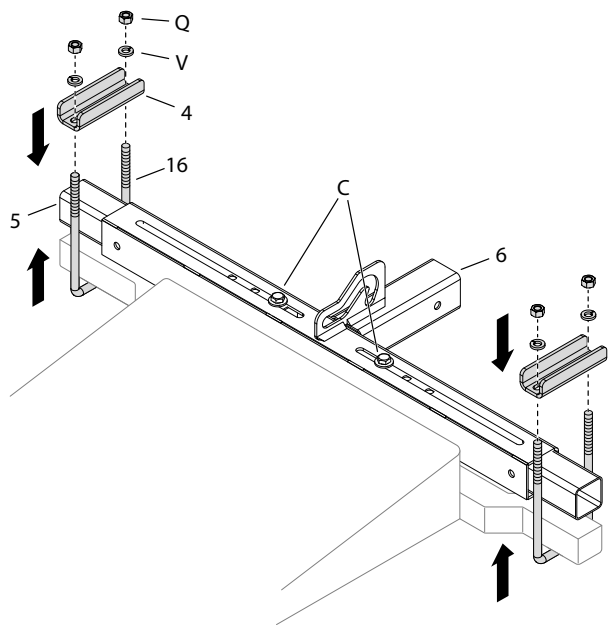

FIGURE 2
STEP 2: (SEE FIGURE 2)
- Attach the hitch mount assembly (8) to the tractor frame using two U-bolts (6) secured with two mounting brackets (5), four washers (J), and four Nylock hex nuts (E). Do not tighten.
- If the slider tube does not fully extend into both U-bolts (6), then loosen the appropriate hex bolt (C) and reposition the slider tube (7).